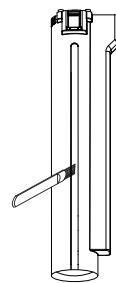

Fig 5
4. Clean the dirt inside the tube with a long-handled soft brush as shown in **Fig 5**, and then wash the tube in the sink.